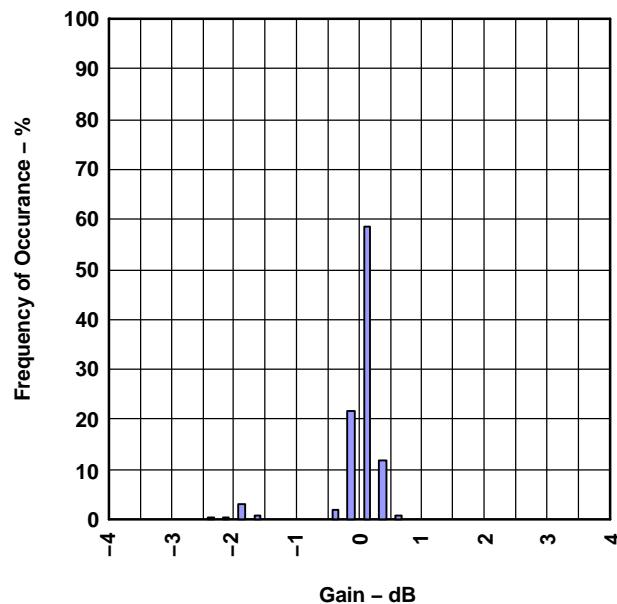

Figure 29. Typical Gain Variance
(1) Each step is tested at its midpoint and characterized within  $\pm 4$ dB of the specified gain value for  $V_{DD} = 5$  V. For  $V_{DD} = 4.5$  V to 5.5 V, multiply values by 90% and 110%, respectively.
(2) 95% of the characterized values lie within  $\pm 0.5$ dB of the specified gain value. Figure 29 shows the typical behavior of most devices.